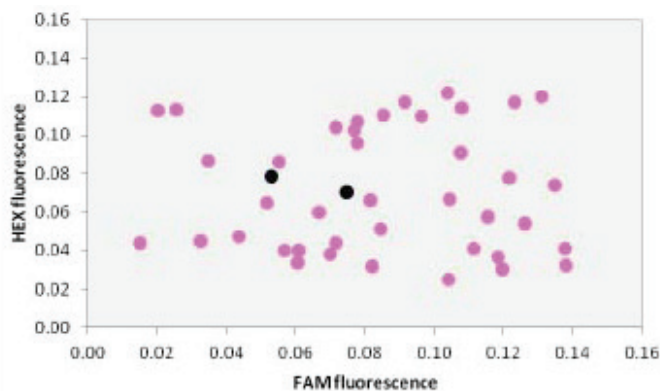
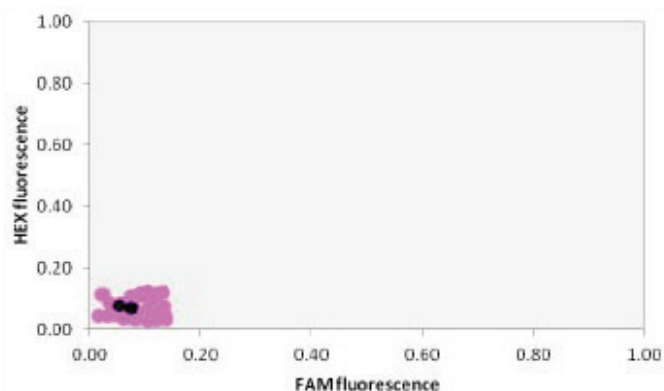

Figure 3.8A. Data points are scattered across the plot and there is no apparent pattern to the genotyping results.
Figure 3.8B. The X and Y axes have been rescaled and all data points group with the NTCs, indicating that no amplification has occurred.
**Plot characteristics:** no pattern to the results, scattered data points (Figure 3.8A). Rescaling of the X and Y axes can help to clarify if amplification has occurred or not (Figure 3.8B).